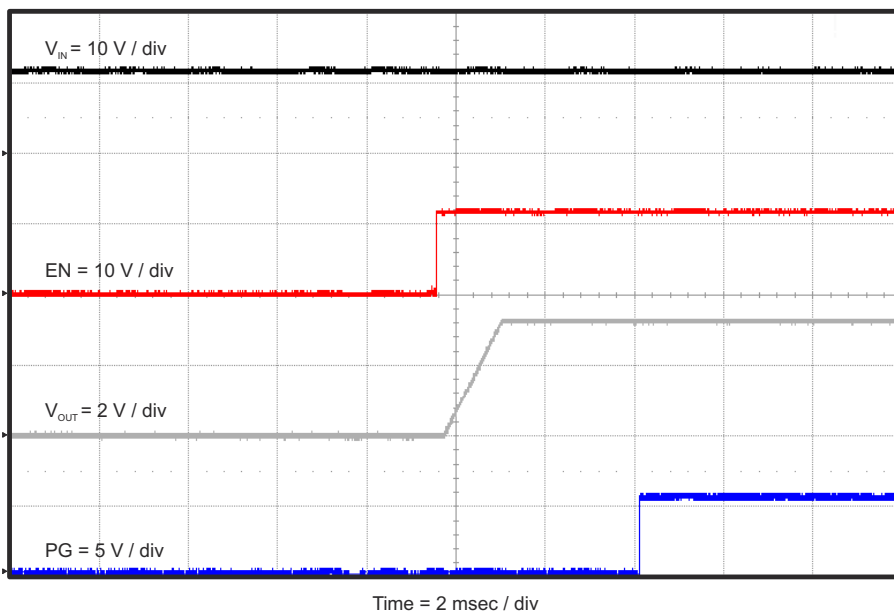

Figure 4-12. TPS65581EVM-575 CH1 Start-Up Relative to EN
The TPS65581EVM-575 start-up waveform for CH1 relative to enable (EN) is shown in Figure 4-12. Load = 4 Ω resistive. The start up waveforms for CH2 and CH3 are similar and not shown.